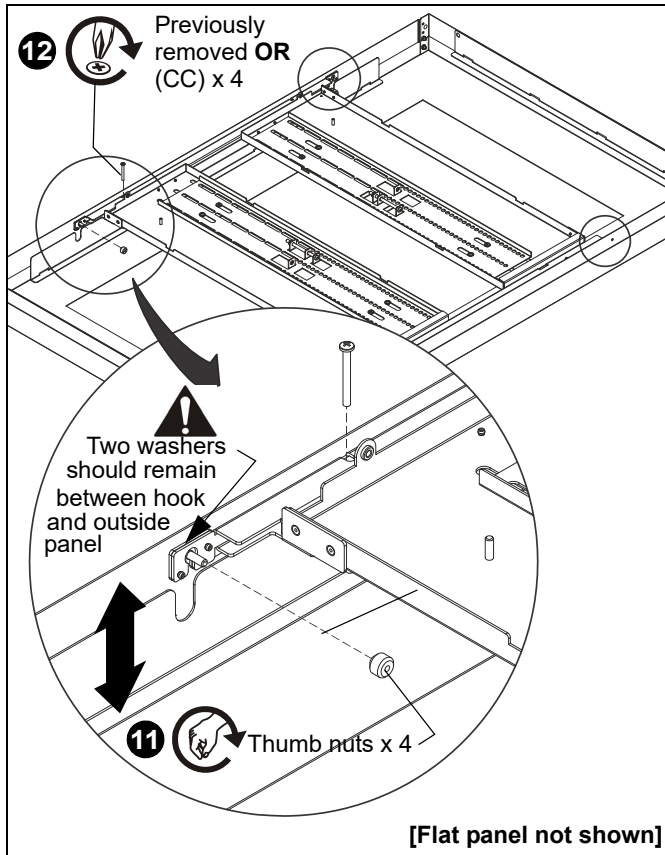

Figure 11
NOTE: The outer cover depth may be adjusted between 3" - 5" to make room for a variety of different flat panel thicknesses. (See Figure 11)
11. Tighten thumb nuts over threaded studs in four locations on the hinged frame. (See Figure 11)
12. Replace and fasten four Phillips screws which were removed in Step 1, **OR** replace the removed screws with four 10-24 x 3-1/2" Phillips head screws (CC) to allow for a larger depth adjustment of the outer frame. (See Figure 11)